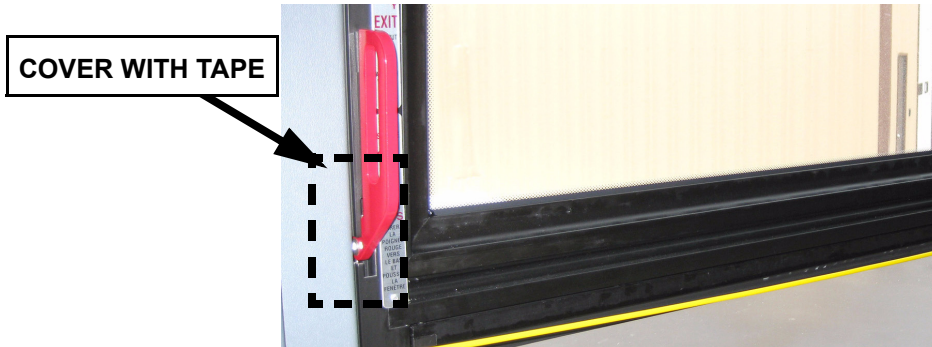

Figure 1-2 Egress Handle
Ensure egress window release handle opening is temporarily covered with tape to prevent drilling chip material from entering opening. Remove tape once drilling is completed. See Figure 1-2
2. Cover egress window release handle opening with tape. See Figure 1-2